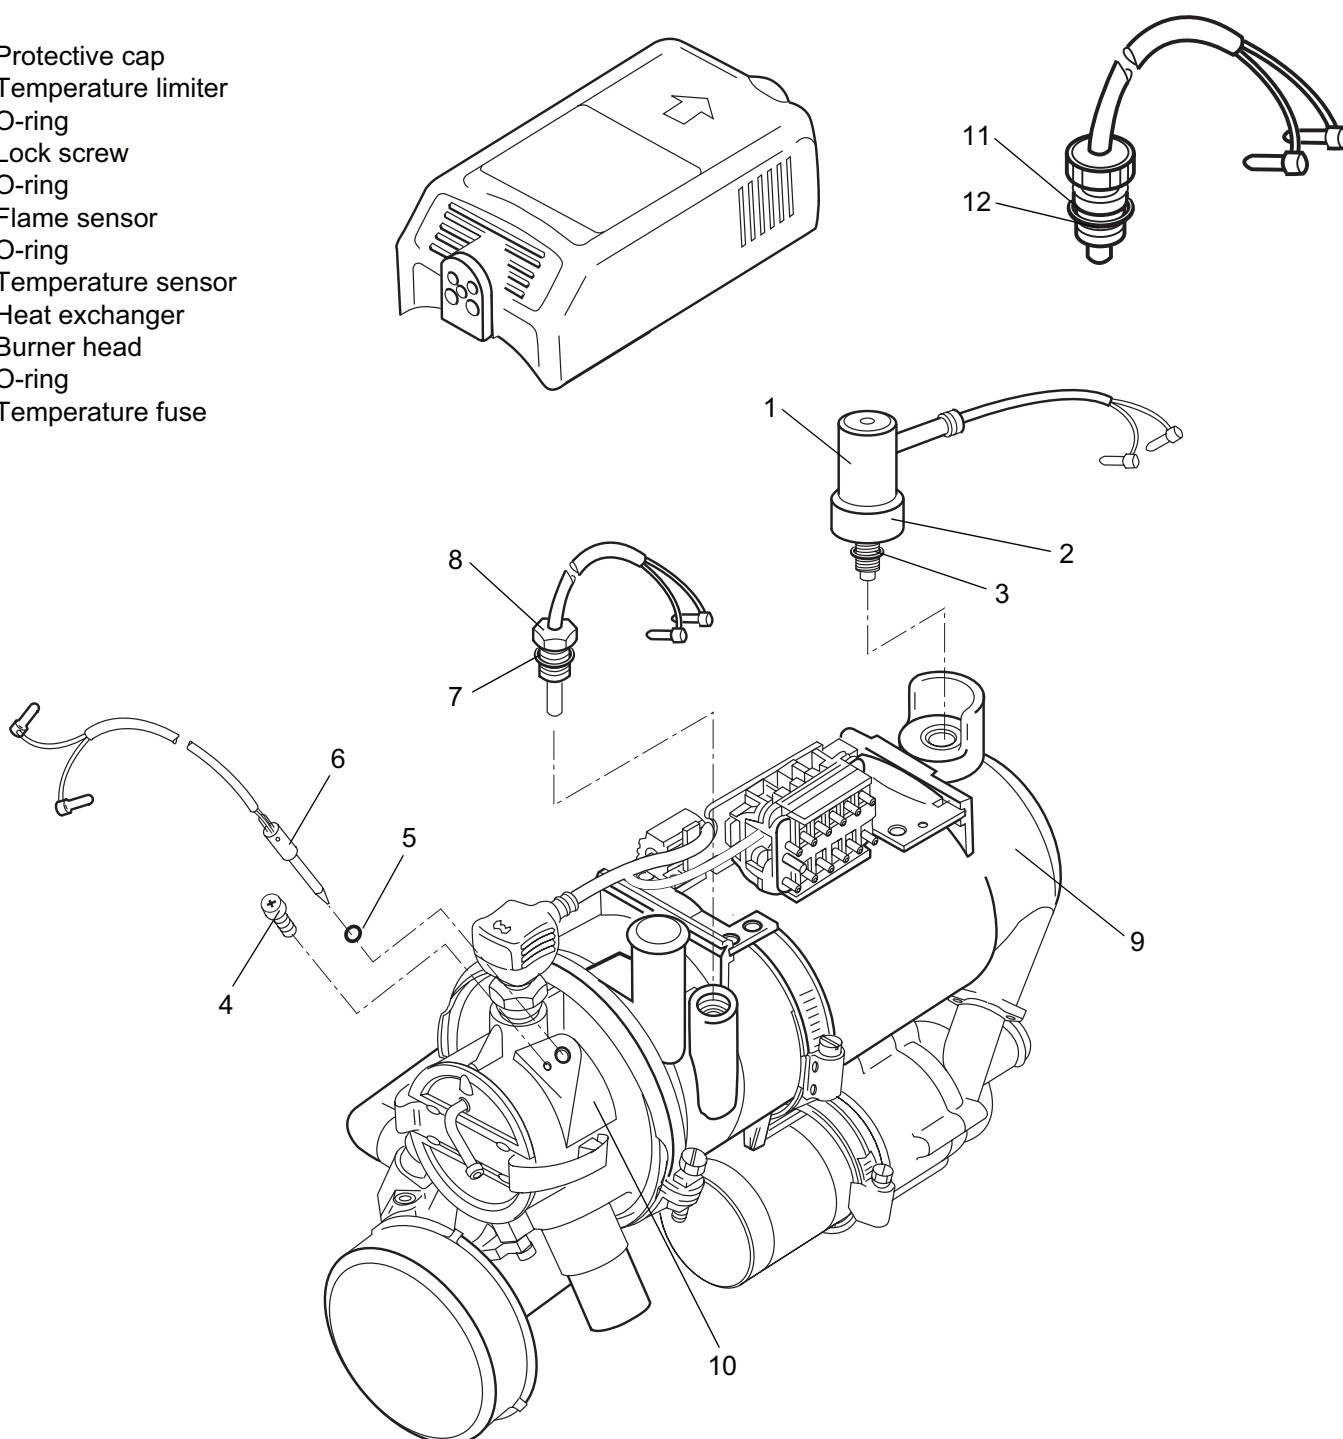

Fig. 902 Replacement of Temperature Limiter, Temperature Fuse, Temperature Sensor and Flame Sensor
3. Withdraw protective cap (1, Fig. 902).
4. Unscrew temperature limiter (2) from heat exchanger (9) and remove together with O-ring (3).
1. Apply Copaslip (Ident. No. 105898) to thread of temperature limiter (2, Fig. 902) and manually screw into heat exchanger (9).
2. Using a fork wrench tighten temperature limiter (2) with a third of a turn. Maximum torque 1.5 Nm.
3. Fit protective cap (1).
3. Unscrew temperature fuse (12, Fig. 902) from heat exchanger (9) and remove together with O-ring (11).
1. Apply Copaslip (Ident. No. 105898) to thread of temperature fuse (12, Fig. 902).
2. Manually screw temperature fuse (12) with O-ring (11) into heat exchanger (9).
3. Unscrew temperature sensor (8, Fig. 902) and remove together with O-ring (7).
1. Apply Copaslip (Ident. No. 105898) to temperature sensor (8, Fig. 902), manually screw with O-ring (7) in place into heat exchanger (9) and tighten with 0.5 Nm.
3. Loosen lock screw (4, Fig. 902).
4. Withdraw flame sensor (6) on clamp together with O-ring (5).
1. Apply non-acid grease to O-ring (5, Fig. 902) and locate on flame sensor (vent port must remain open).
2. Slide flame sensor (6) into burner head (10).
3. Apply copper paste to lock screw (4) and screw into burner head (10).